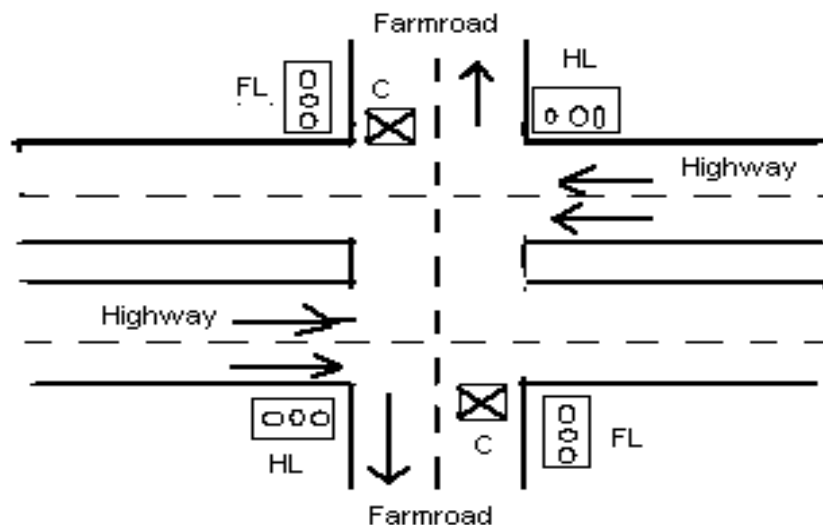

Figure 1: (a) Highway/Farmroad intersection – Placement of lights and sensors.
- The **assertion of the CARDETECT input signal (denoted C in Figure 1) indicates the detection of a vehicle on the farm road. As long as CARDETECT is not asserted, the highway has right of way. When CARDETECT is asserted, the farmroad is granted right of way (subject to limitations below).**